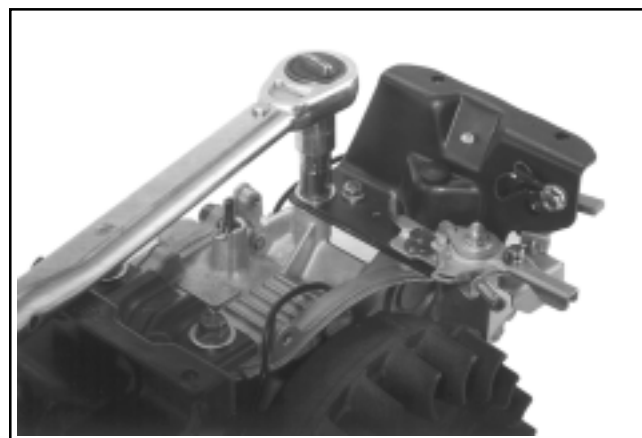

Figure 11-83. CS4, CS6. Mounting Right Fuel Tank Support.
2. Assemble the right fuel tank support and attached electrical components* to the crankcase bosses. Mount the throttle control bracket off the flywheel side screw as shown in Figures 11-83 and 11-84. Install a flat washer under the head of screw on PTO side only. Torque screws to:
3. Check that the ground leads are secured at the bracket locations, as shown in Figures 11-83 through 11-85.